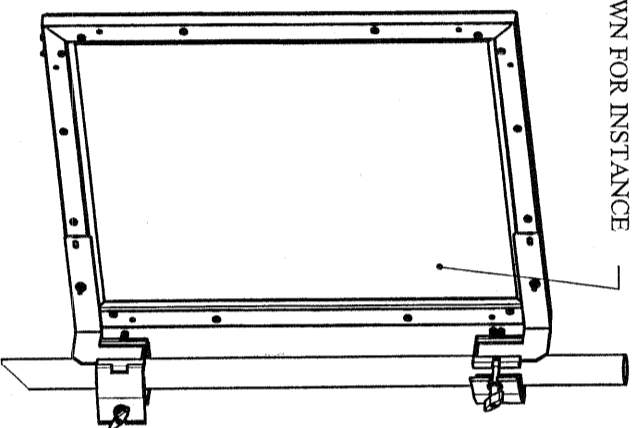

FIG.2
OF THE BRACKETS (SEE FIG.2)**
- STEP 6 SLIDE UNI-CLAMP DOWN CAPTURING LOWER BRACKET TAB INTO CORRESPONDING SLOT (SEE FIG.2).
- TIGHTEN KNOB TO HOLD LOWER UNI-CLAMP AND LOCKING SCREWS ON CORRESPONDING SLOTS OF (2) UNI-CLAMPS FIRMLY.
- STEP 8 LOOSEN BAR KNOBS ON (2) UNI-CLAMPS, AND LIFT WHOLE ASSEMBLY UP ALONG POLE ON DESIRED HEIGHT CAREFULLY (LADDERS RECOMMENDED)